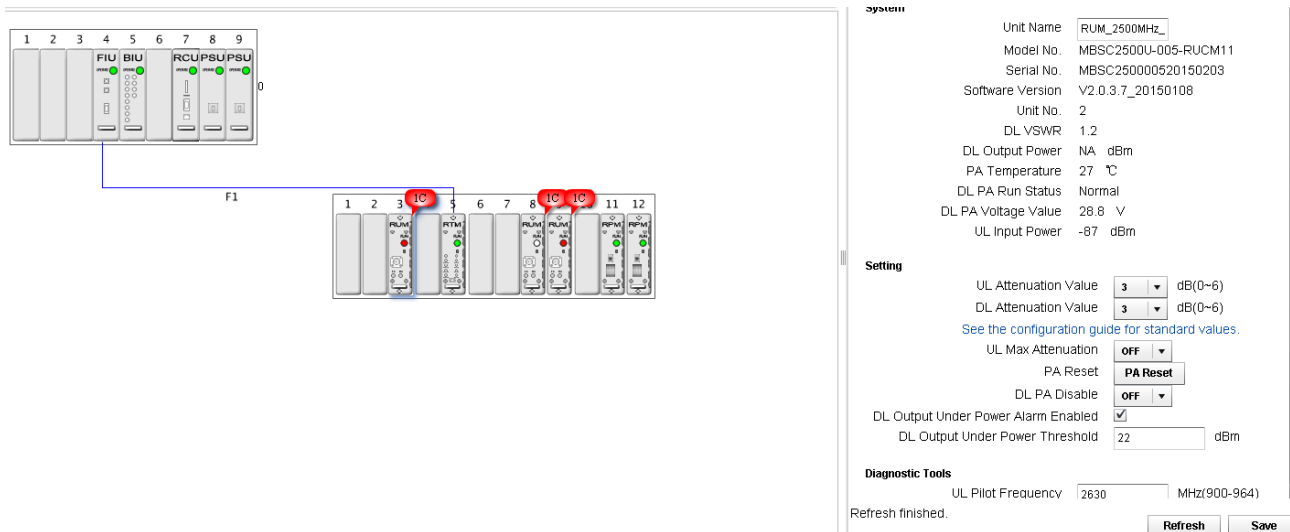

Figure 49 – Up/Down Link Verification
- a. In the topology window the Downlink Output power is displayed next to the specific RU (e.g. 30.7 dBm indicated in the topology diagram by the 800MHz RU in Figure 49 – Up/Down Link Verification)
1. Click on the RU for the desired frequency band. The component window will pop up as shown in Figure 49 – Up/Down Link Verification